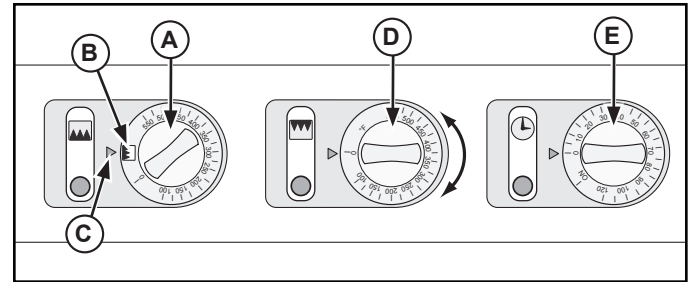

Figure 3. 40703 and 40701 Controls set for the Browning Function.
2. Switch the bake control  knob (A) to the brown function icon  (B) to the indicator (C). See Figure 3.
3. Set the brown control  knob (D) to the desired temperature. The timer control (E) does not need to be used for the browning function to operate.